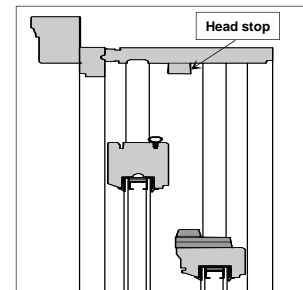

Fig. 2. Remove head stop
- 9 Remove head parting stop (fig. 2) with a putty knife and discard (new head jamb filler will replace it)